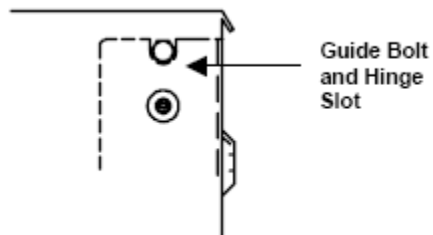
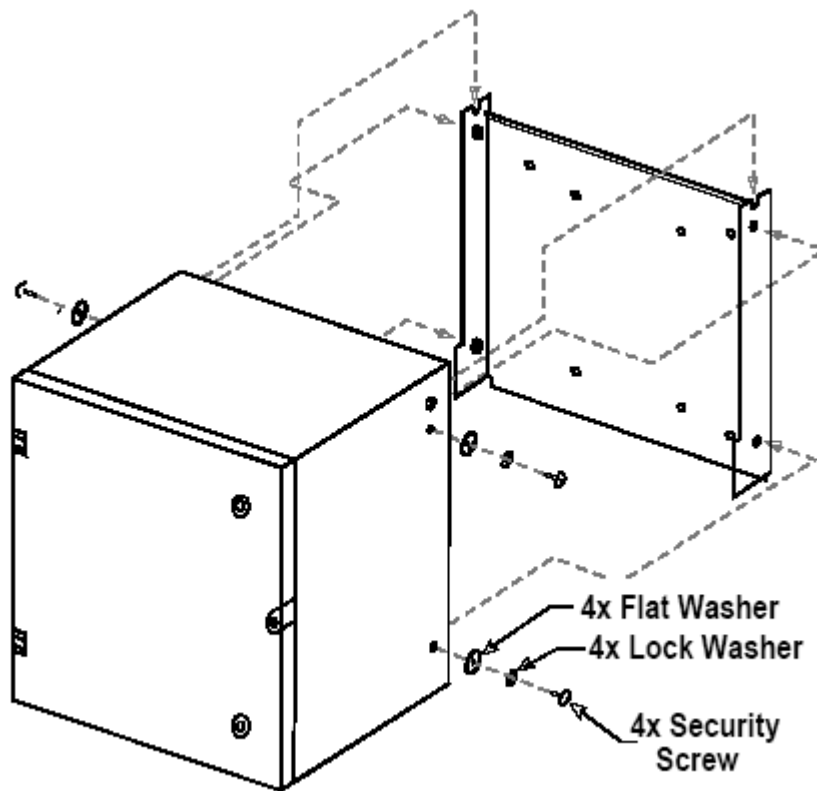

Figure 10. Guide Bolt and Slot
Figure 11. Repeater Mounting and Hardware Placement
6. Set the repeater into the bracket by sliding the guide bolt into the guide slot—see Figure 10 and Figure 11.